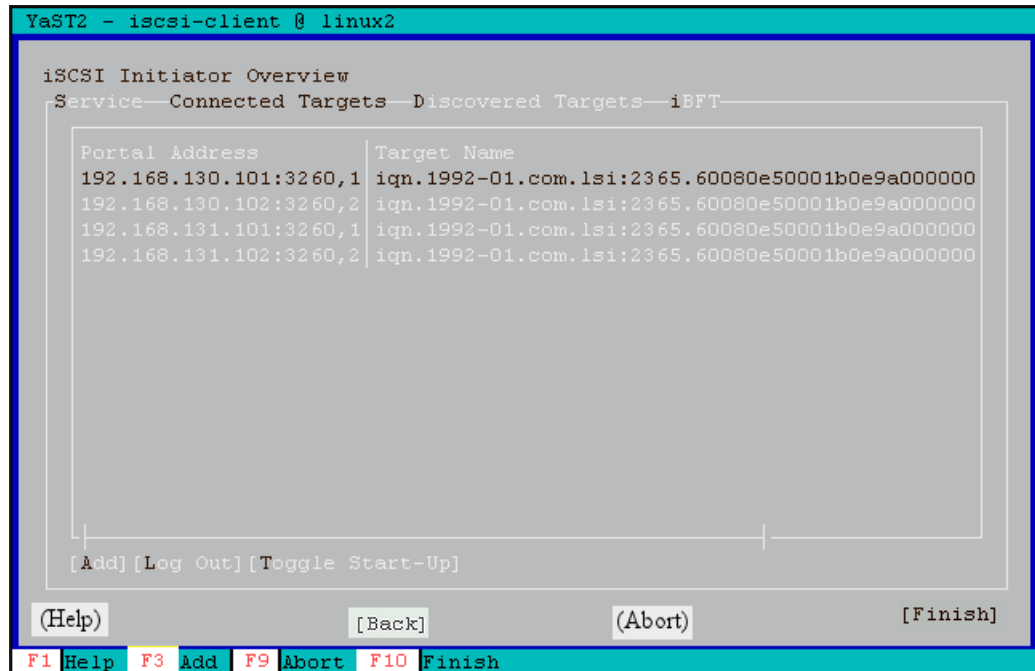

Figure 20-23 All the iSCSI host ports connected
- It is necessary to repeat all the previous steps for configure each iSCSI controller port. At the end, the panel should be similar to Figure 20-23.